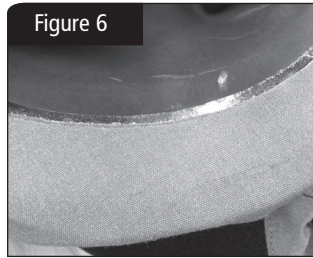

Figure 6
4. Place the replacement neck seal into the opening on the suit. The heat adhesive portion of the neck seal should be inside the suit facing up. There should be a 1/8 inch edge of adhesive visible around the edge of the suit. See Figure 6.